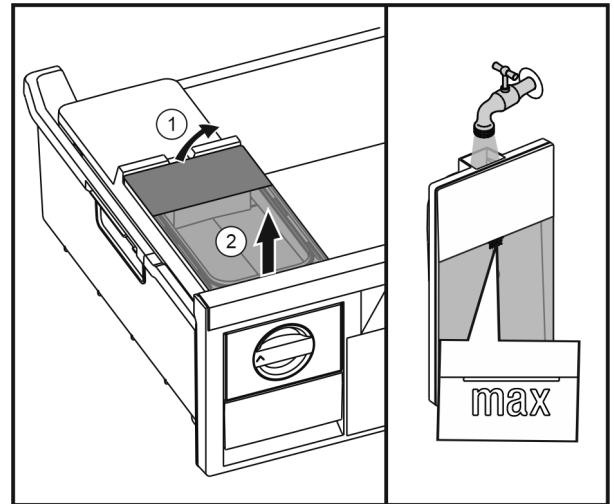

Fig. 43
- ▶ Lift up the water tank at the rear Fig. 43 (1) and remove to the top Fig. 43 (2).